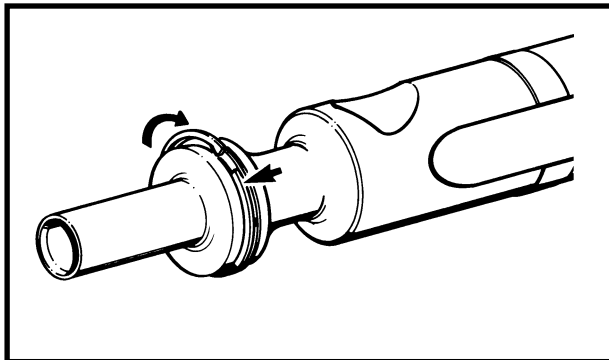

Figure 3-2-35 Installing Bolt Rings
- a. Install the bolt rings onto the bolt taking care not to distort the new rings. To install the bolt rings, see Figure 3-2-35 and proceed as follows:
- (1) Carefully position one end of the bolt ring in the bolt groove and hold in place;
- (2) Gently guide the circumference of the bolt ring into the groove until it snaps into position;